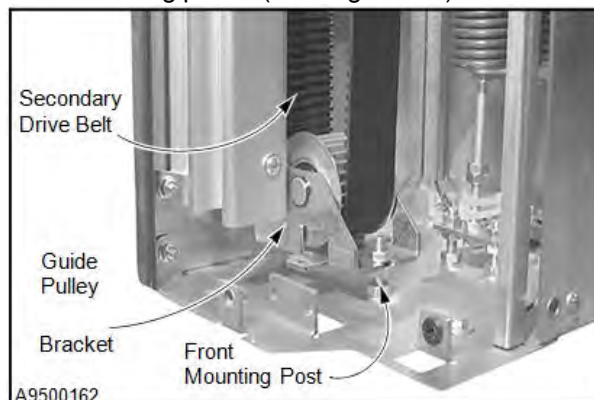

Figure 48
5. Release the tension from the secondary drive belt by removing the guide pulley bracket from the mounting posts. The pulley bracket is held in place by a pair of nuts threaded onto the mounting posts. (See Figure 48.)